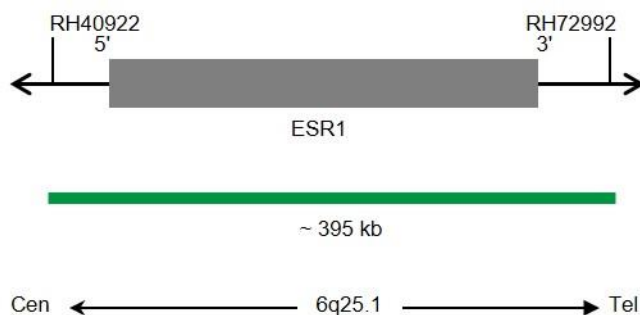

Fig. 1: SPEC ESR1 Probe map (not to scale)
- ZyGreen (excitation 503 nm/emission 528 nm) labeled polynucleotides (~10 ng/ μ l), which target sequences mapping in 6q25.1* (chr6:152,083,365-152,478,947) harboring the ESR1 gene region (see Fig. 1).